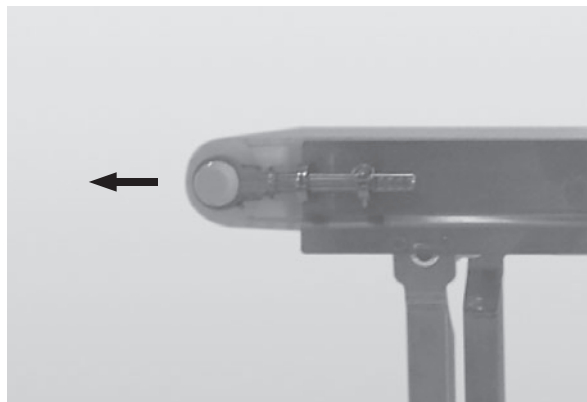

Figure 45
8. Extend the tension end to remove excess slack in the belt (**Figure 45**).